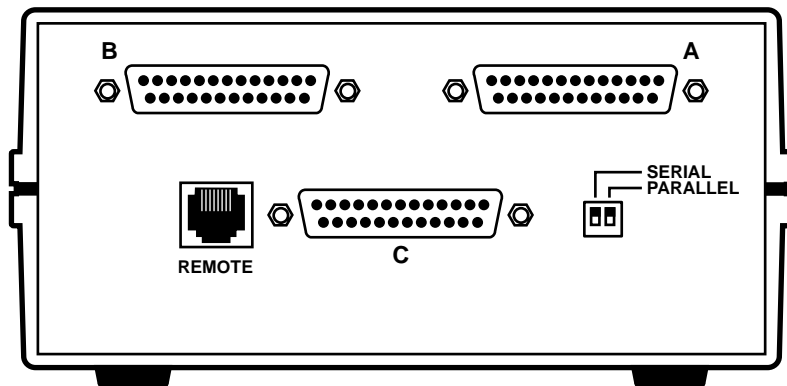
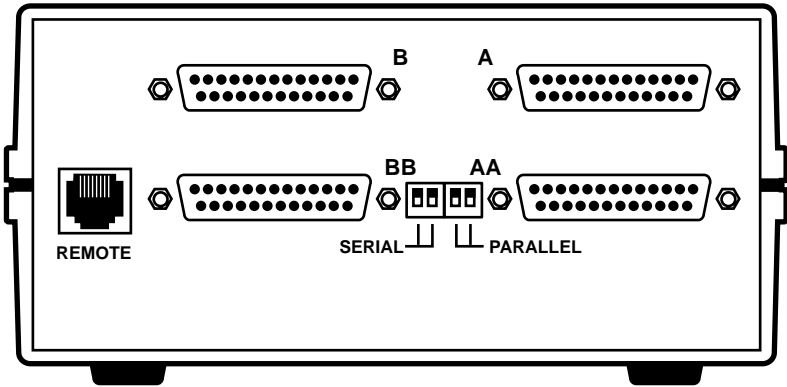

Figure 3-4. Rear panel of the SW980 models.
Figure 3-5. Rear panel of the SW981 models.
5. Find DIP switch S2 (for SW980 and SW982 units) or DIP switches S2 and S3 (for SW981 units) on the Switch's rear panel. Refer to **Figure 3-4** below or **Figure 3-5** or **3-6** on the next page, which show the rear panels of the SW980, SW981, and SW982 models respectively.